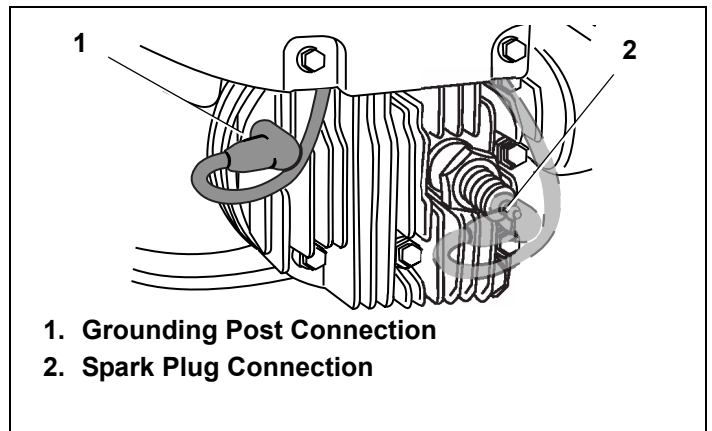

Figure 3. Typical Grounding Post/Spark Plug Connection
- Carefully attach the spark plug wire to the grounding post, if provided. See Figure 3.